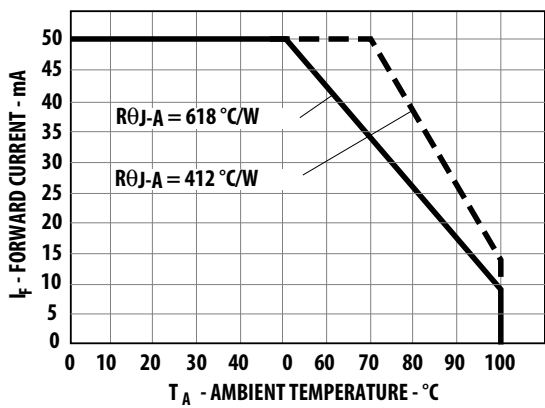

Figure 4. Maximum Forward Current vs. Ambient Temperature. Derating Based on  $T_{JMAX} = 110\text{ }^{\circ}\text{C}$ .
- Derate linearly as shown in Figure 4.